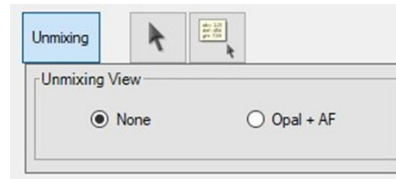

Figure 3.35. Unmixing View editor.
- **Opal + AF:** The image is shown as unmixed components using synthetic Opal spectra. By using a representative autofluorescence from an unstained human tonsil section, PhenoChart can provide a preview of signal and autofluorescence isolation. Unmixing does not alter the underlying data in any way. (See Figure 3.35.)